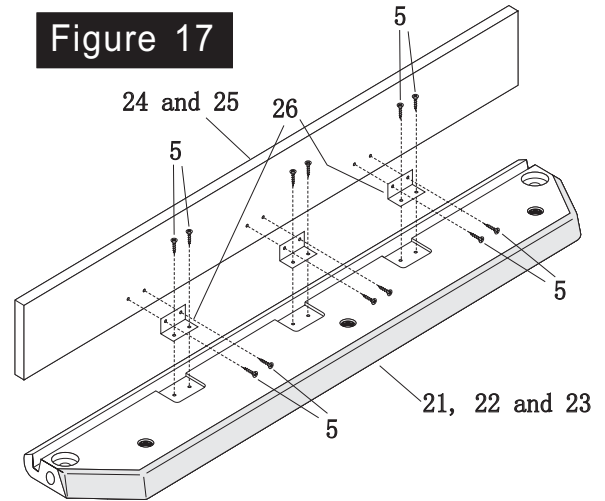

Figure 17
38. Make a final stretch along the length of and over the edge of the table, stretch hard enough to work out all wrinkles. (See Figure 17). If cloth is not smooth, lift and re-apply. **NOTE:** Rubbing fingers lightly across cloth should not make cloth move.
41. Attach side aprons #24(40-7/16") to side rails #21(40-7/16") and #22(40-7/16") using three apron brackets #26 and twelve short screws #5, as shown in Figure 17.